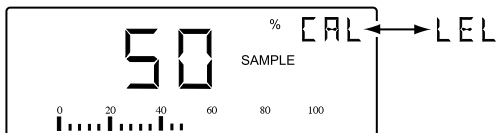

Figure B-8 50% LEL Display
- 9) The instrument display will now return to CAL mode display as shown in Figure B-8.